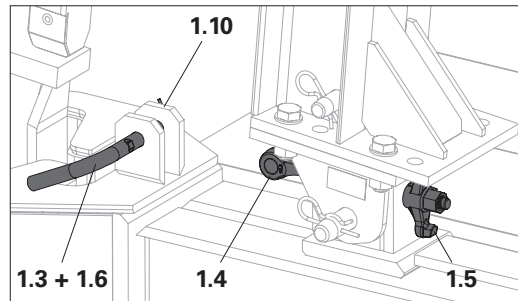

Fig. C5.01a
3. Tighten with Wing Nut DW 15 (1.5). (Fig. C5.01a)